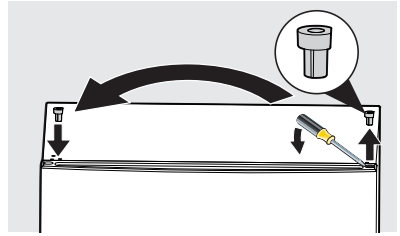

Figure 2
- Gently pry the hinge bearing out from the door with a flat head screwdriver. Install the hinge bearing on the opposite side of the door. Remove the door from the unit by lifting it up (see Figure 2).